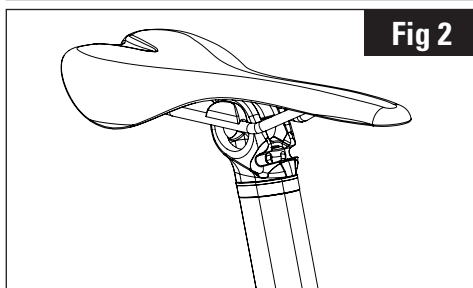

Fig 2
2. Insert the upper support (10) indicated in Fig 5.1 if you want to use a seatpost with round rails $\varnothing 7\text{mm}$ and the support (10b) indicated in Fig 5.2 for a saddle with oval rails. (Fig.2)